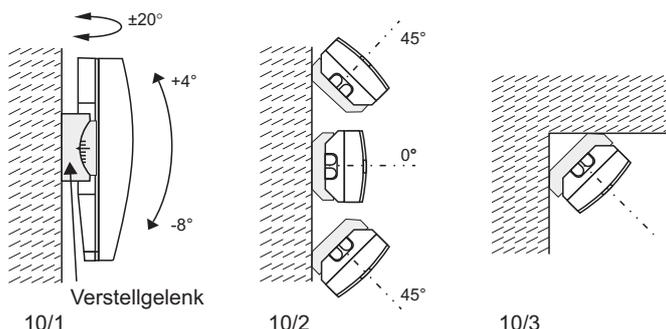

Fig. 10
Mounting as per Fig. 10
- Mounting directly on the wall (Fig. 10/1)
- Horizontal at a 45° angle to the left or right (Fig. 10/2)
- Corner mounting (Fig. 10/3)